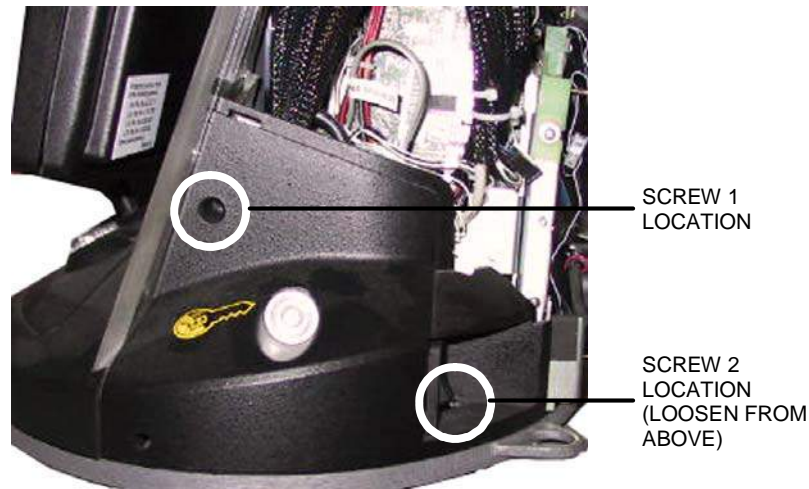

FIGURE 12 - SIDE VIEW OF LEFT WING HIP
14. Remove the left wing hip by removing the two screws securing it. See Figure 12 for screw locations. Screw 2 can be loosened by inserting a screwdriver into the inside lip of the wing hip, directly over the screw.
31. Resecure the left wing hip with the two screws you removed earlier. See Figure 12 for screw positions. Be sure that the bottom lip of the wing hip is seated behind the lip of the metal base of the Aurora. Additionally, be certain that no wires are interfered with or crimped when this component is placed back into the system.